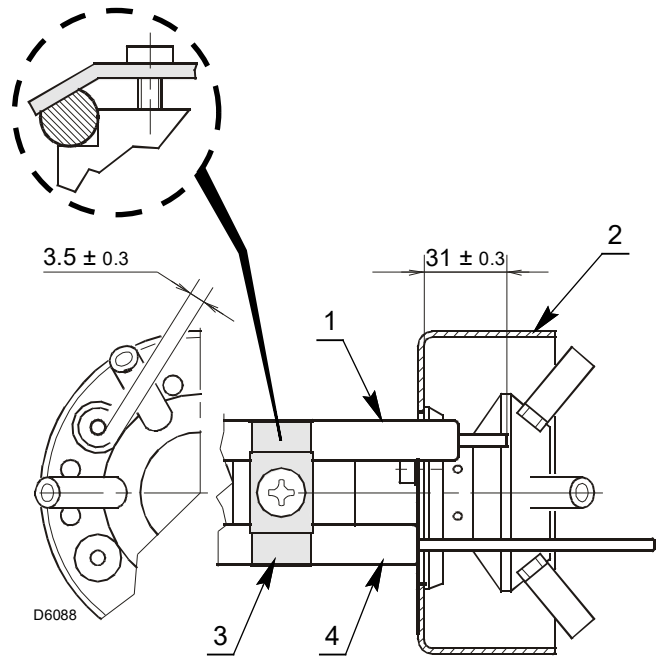

Fig. 14
- Make sure that the plate 3)(Fig. 14) is always inserted in the flattening of the electrode 1)(Fig. 14).
- Rest the probe insulator 4)(Fig. 14) against the air diffuser 2)(Fig. 14).